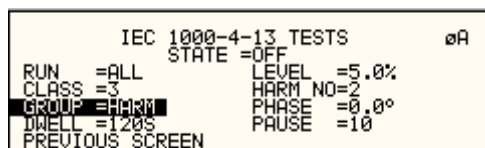

Figure 9-25: IEC 1000-4-13 Harmonics
If the Harmonics group is selected, the screen will appear as shown in Figure 9-25. The screen has the following parameters that are unique to the group:
7. To run an individual range, applicable for sweep and individual harmonics only, the desired range and the RUN RANGE mode must be selected prior to the start of the test. In case the harmonics group is selected, RUN RANGE will run the harmonics from the second harmonics to the harmonics number specified by the HARM NO field. See Figure 9-25.